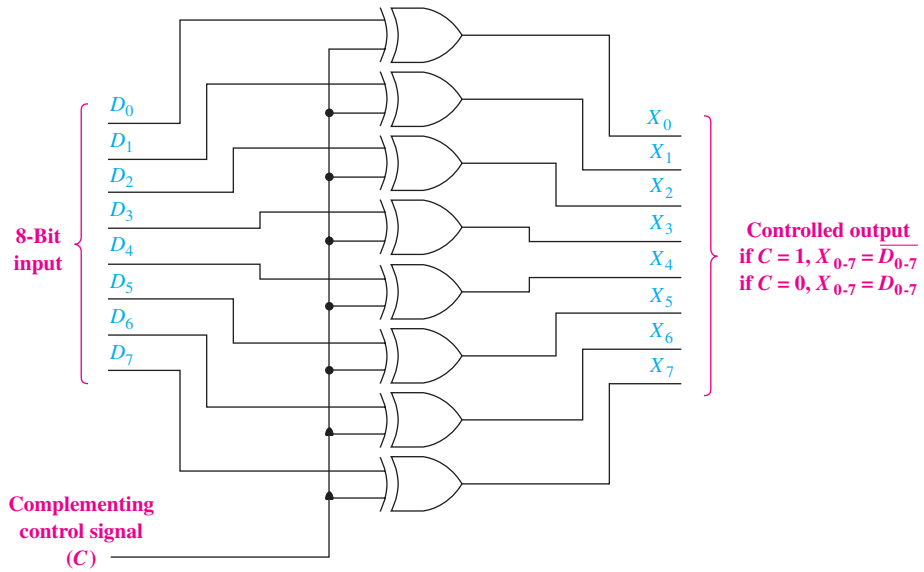

Figure 15 Controlled inverter (complementing) circuit.
Solution: The circuit shown in Figure 15 can be used to provide the complementing function. If the control signal (C) is HIGH, each of the input data bits is complemented at the output. If the control signal is LOW, the data bits pass through to the output uncomplemented. Two 7486 quad exclusive-OR ICs could be used to implement this design.